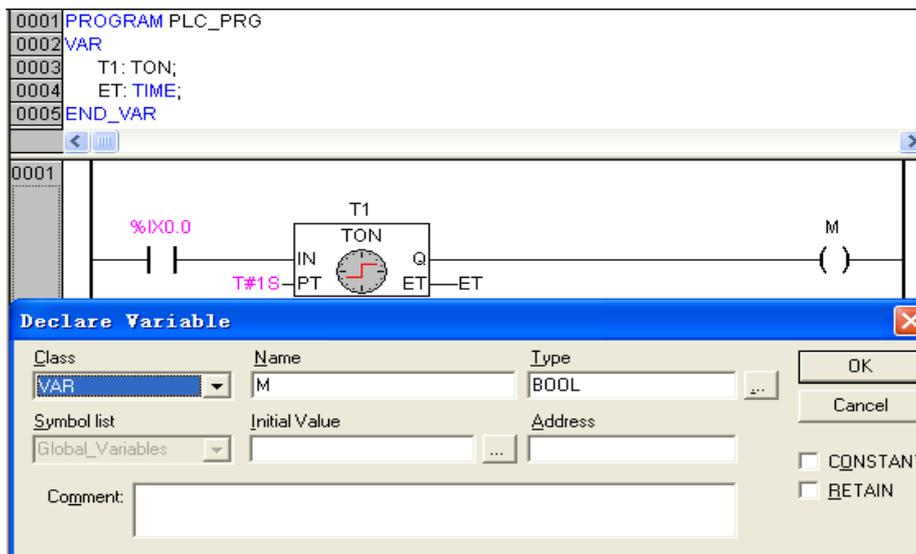

Figure 3-6-8 Programming Step (8)
- Enter “M” in field “???” , and select the “Type” as BOOL, as shown in figure 3-6-8, then click “ok”.